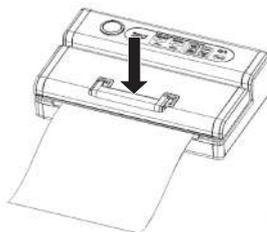

Fig.7
- Shut vacuum lid and lock handle down (fig. 7).